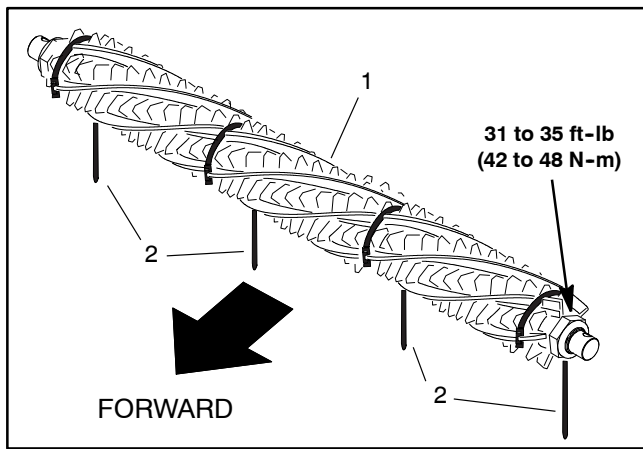
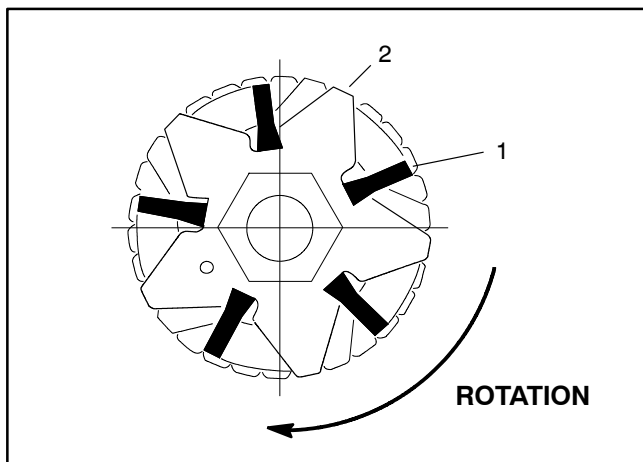

Figure 14
Figure 15
B. Slide a brush into each groove around the full length of the groomer reel (Fig. 14). Make sure brushes are seated in groomer blade slots (Fig. 15)
C. Loosely wrap the straps around the groomer reel shaft and brushes as shown (Fig. 14). Straps should be positioned in the pre-cut notches of each brush and at the following locations on the broomer shaft: